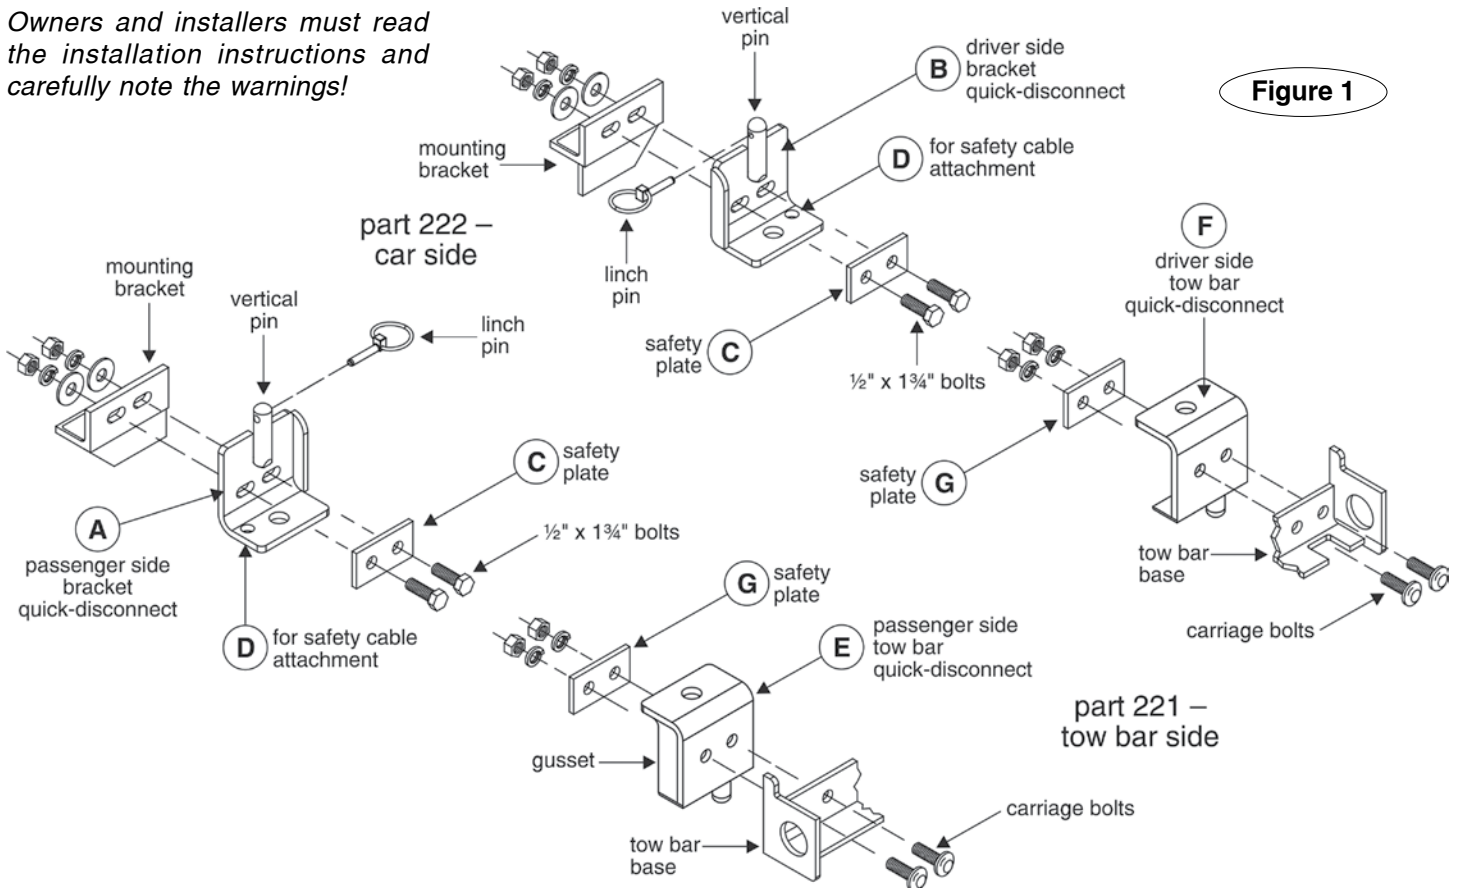

Figure 1
1. First, attach the bracket quick-disconnects ("QDs," parts "A" and "B" in Figure 1) to the tow bar mounting brackets. Attach the QDs so that the vertical pin on each is pointing up, as shown in Figure 1.
Attach part "A" on the passenger side, and part "B" on the driver side. Use the supplied 1/2" x 1 3/4" bolts, the two safety plates (parts "C"), and the flat washers, lock washers and nuts, as shown in Figure 1.
Note that both bracket QDs have an extra hole – "D" in Figure 1 – for safety cable attachment. Mount parts "A" and "B" so that the "D" holes are to the outside.
Position the tow bar quick-disconnects ("QDs," parts "E" and "F" in Figure 1) over the carriage bolts.
Make certain that "E" is on the passenger side and "F" is on the driver's side – when positioned correctly, the gusset (Figure 1) will be to the outside.
2. Next, position the safety plates ("G" in Figure 1) over the carriage bolts.
3. Attach the QDs with the lock washers and nuts, as shown in Figure 1.